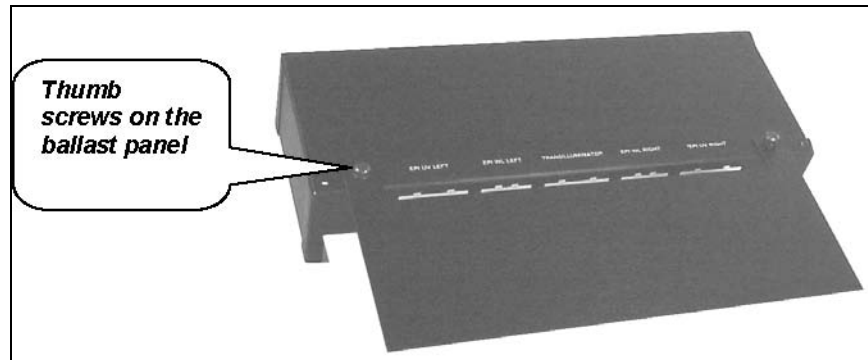

Figure 3.18
1. Remove the access panel mounted on the ballast panel by unthreading the two thumbscrews (Figure 3.18).
<p align="center">Figure 3.18 a VersaDoc 1000,3000, 4000 Systems under Serial # xxxBR300</p>	<p align="center">Figure 3.18b VersaDoc 5000 System under Serial # xxxBR300</p>